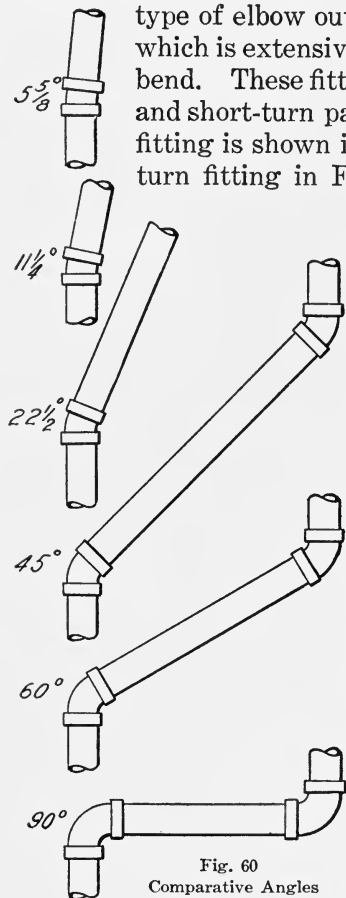

Fig. 60
**Recessed Drainage Bends.**—Owing to the rigid joints to wrought-iron pipe, greater variety of bends must be used than are required for cast-iron soil pipe. The least angle made by a drainage fitting is  $5\frac{5}{8}$  degree. The fitting that makes this bend is known as a  $5\frac{5}{8}$ -degree elbow, and a  $5\frac{5}{8}$ -degree elbow turns a line of pipe but slightly from its original direction. Fittings of this type, likewise  $11\frac{1}{4}$ -degree elbows, and  $22\frac{1}{2}$ -degree elbows, 45-degree, 60-degree and 90-degree elbows, are shown comparatively in Fig. 60. All of these types of fittings are extensively used in drainage work, where they are required principally for off-